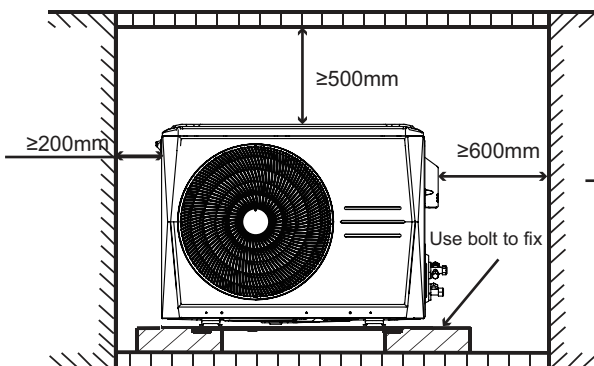

Fig 3-1
3.2.1 Outdoor unit installation and maintenance space, see Fig 3-1 and Fig 3-2. (Unit: mm)